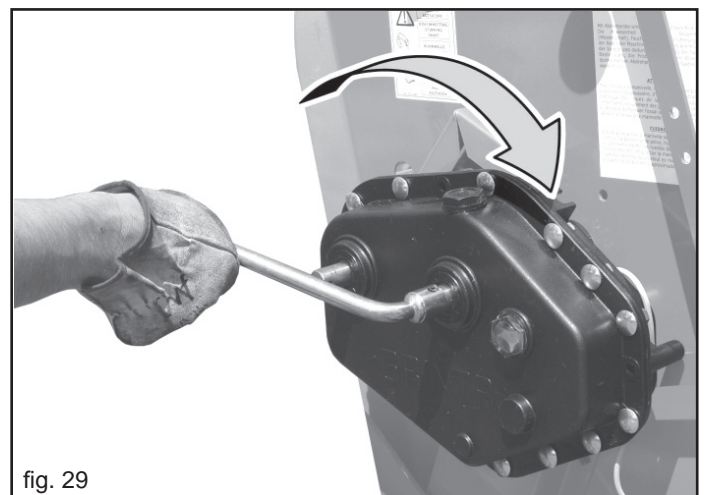

fig. 29
- 4) Insert the crank (Fig. 29) on the gearbox shaft and rotate clockwise.